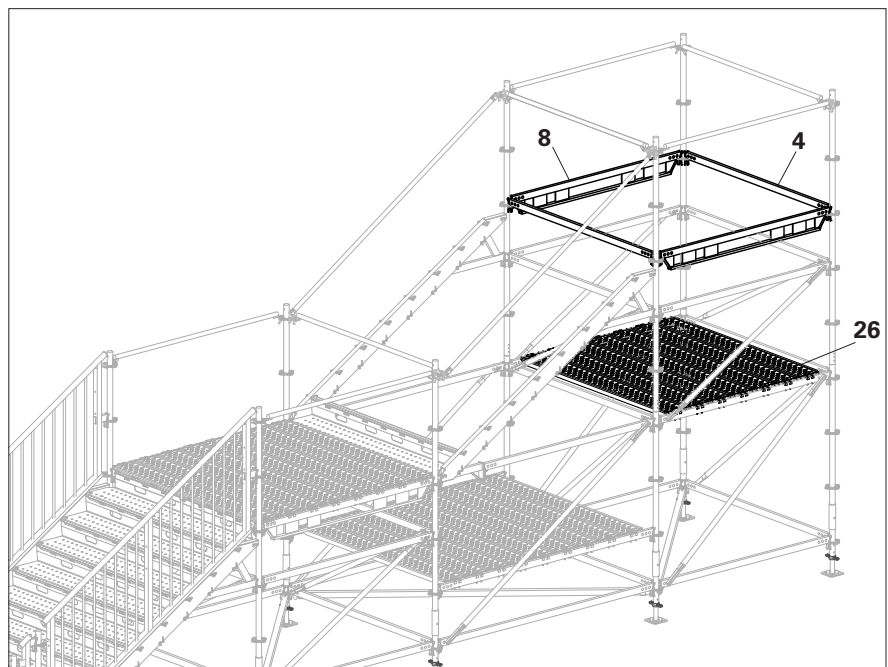

Fig. C1.13
7. Fit 2 x Horizontal Ledger UH-2 200 (**4**) & 2 x Horizontal Ledger UHV-2 200 (**8**). (Fig. C1.13)